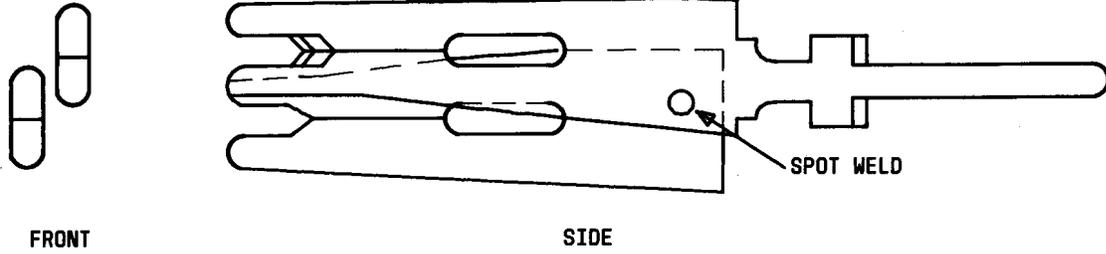
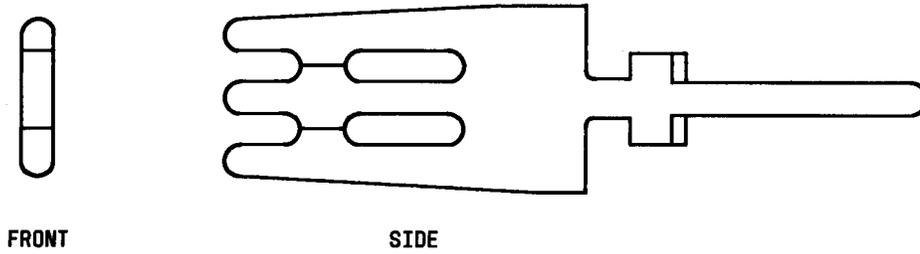

Fig. 1—Views of Terminal Used on 78-Type Connecting Block
Fig. 2—Views of Terminal Used on 112-Type Connecting Block
2.01 The connecting block is made of molded plastic. The 78-type has 2-piece, bifurcated, insulation piercing type terminals (Fig. 1) and a red and white checkerboard pattern on the front face. The 112-type has 1-piece, 3-beam, bifurcated, insulation piercing type terminals (Fig. 2) and a blue and white checkerboard pattern on the front face. Both types of terminals provide two quick-connect termination slots for cross-connections on the front and up to three solderless wire-wrap, hard-wired cable terminations on the rear. Except for the type of terminal and the difference in the color of the checkerboard pattern on the front of the block, the 78-type and 112-type connecting blocks are identical. **However, only one type (78 or 112) should be used on the same frame system.**